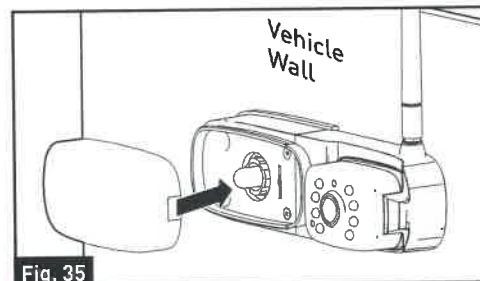

Fig. 35
7. Replace the lens cover over the traffic light base and press until you hear a "click". The camera is fully installed onto the vehicle. (Fig. 35 and Fig. 36)